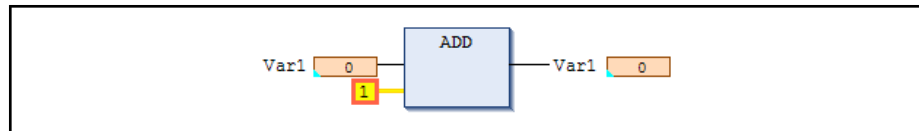

Fig. 8-17: Var1 values highlighted, prepared value exists
- fig. 8-17 "Var1 values highlighted, prepared value exists" on page 138